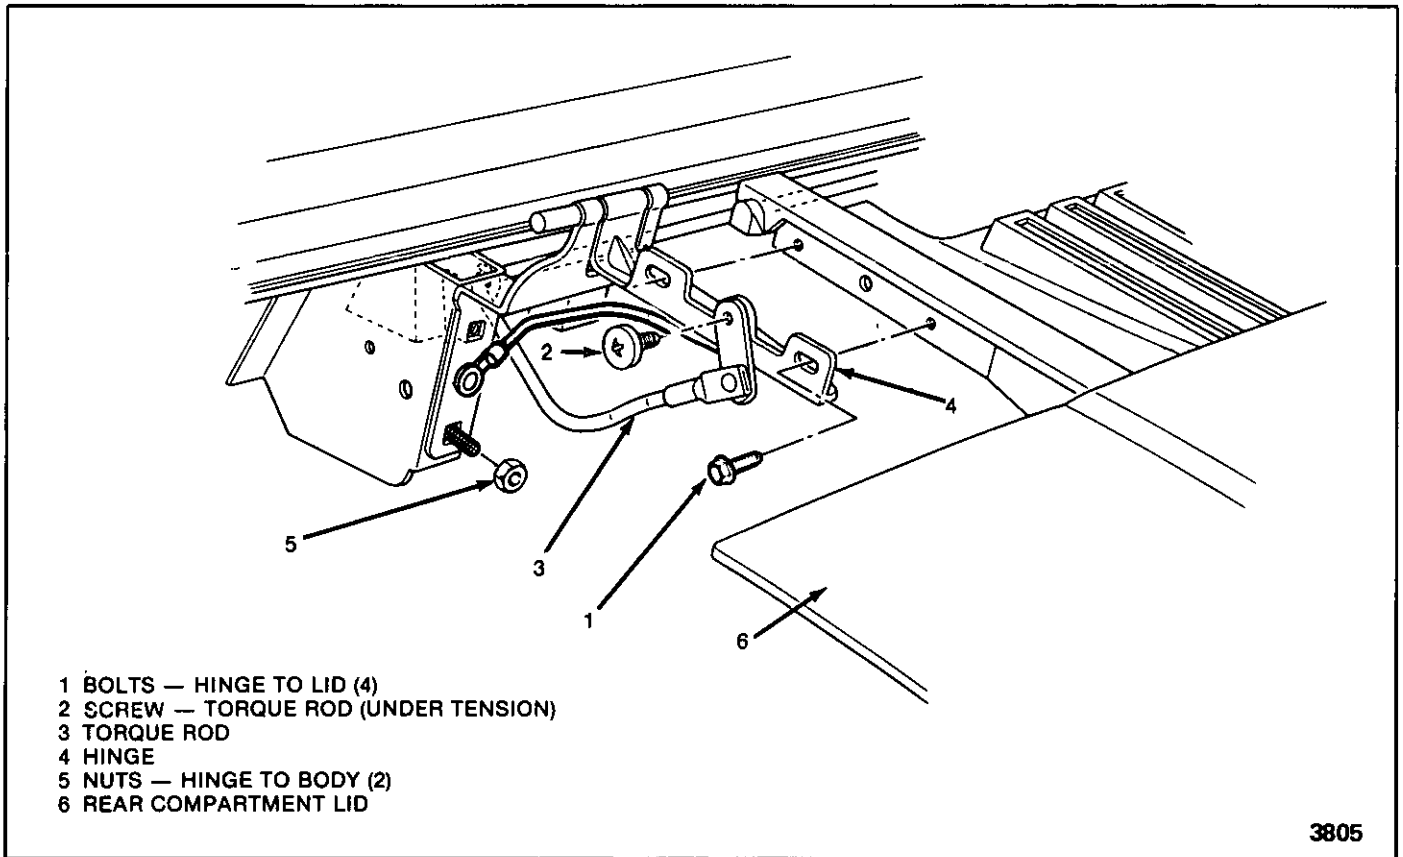
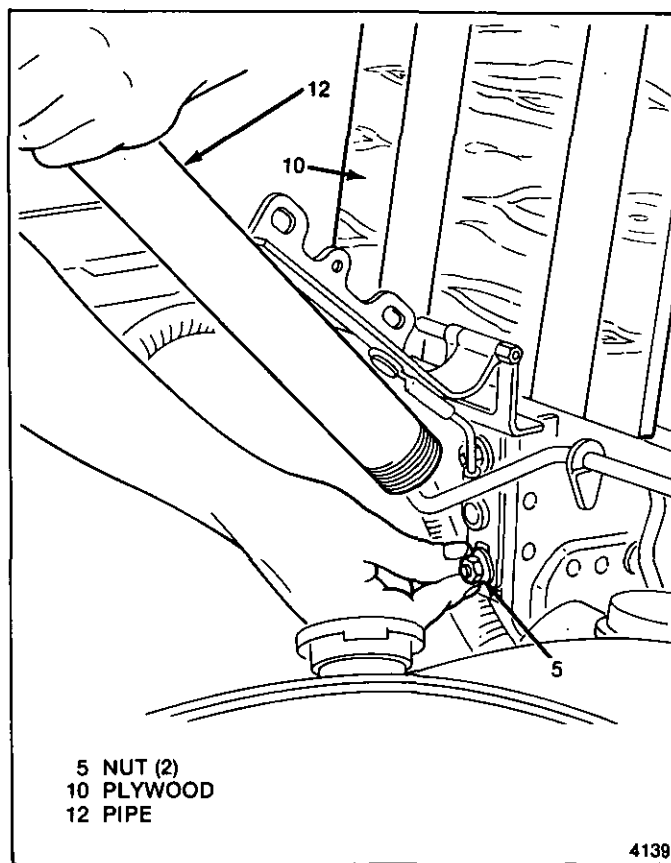

Fig. 1-Rear Compartment Lid Attachment
Fig. 5-Installing Rear Compartment Lid Hinge
Remove or Disconnect (Figure 1)
Install or Connect (Figure 1)
4. Screw (2, Fig. 1) using tool J-35808 or equivalent
5. Nuts (5, Fig. 1)
- Place pipe over end of torque rod (Fig. 5)
- Remove top nut (Fig. 5)
- Hold tension on rod with pipe (Fig. 5) while removing wood block and lower nut.
6. Hinge (4) - allow torque rod to rotate forward and rest against plywood.
1. Hinge (4) - place pipe over rod and hold tension on rod (Fig. 5) while installing hinge.
2. Nuts (5)
🔑 Adjust (Figures 1 and 7)